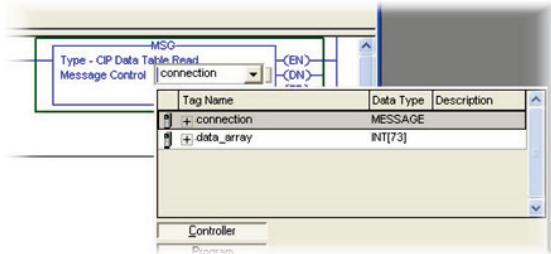

Figure 70: MSG Instruction Tag Assignment
a) Edit the “Message Control” field on the MSG instruction to use the previously-created “connection” tag. Refer to Figure 70.